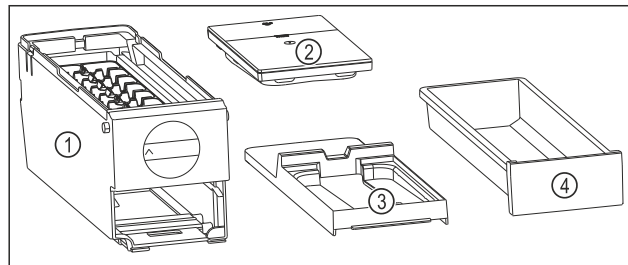

Fig. 167 Components of the EasyTwist-Ice
- EasyTwist-Ice is disassembled in four parts. (see Fig. 167)
- Only disassemble the EasyTwist-Ice into the illustrated components. (see Fig. 167)
- Clean the EasyTwist-Ice body Fig. 167 (1) as a complete unit.